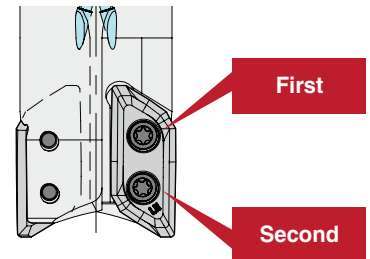

Figure 1
- When tightening the clamp screws, follow the order in Figure 1.